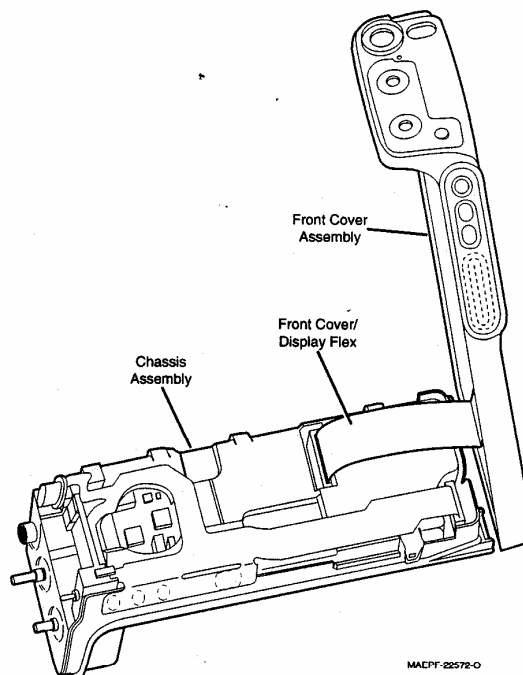

Figure 3
- c. Lay the chassis down, and rotate the front cover back and partially away from the chassis (see figure 3).